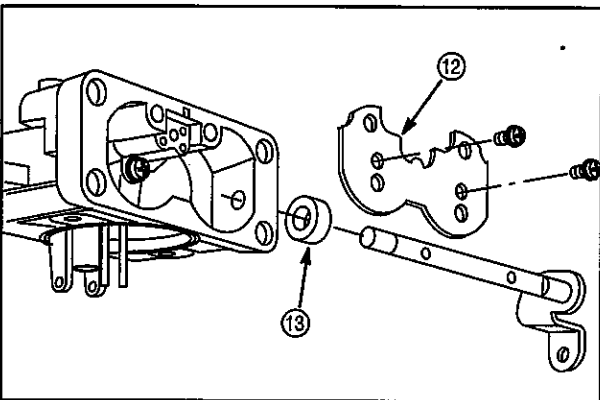

Fig. 120
- Remove screws and choke plate (12), Fig. 120.
- Remove choke shaft. Discard seal (13).